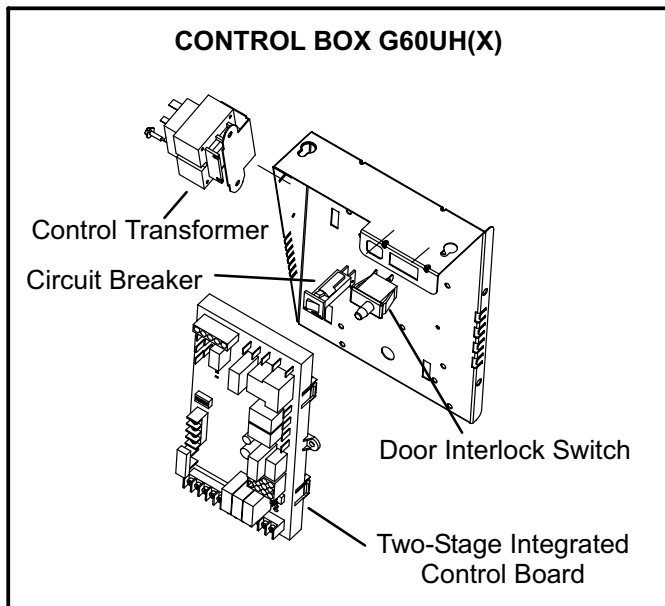

FIGURE 2
G60UH(X) unit components are shown in figure 1. The gas valve, combustion air inducer and burners can be accessed by removing the burner access panel. Electrical components are in the control box (figure 2) found in the blower section.